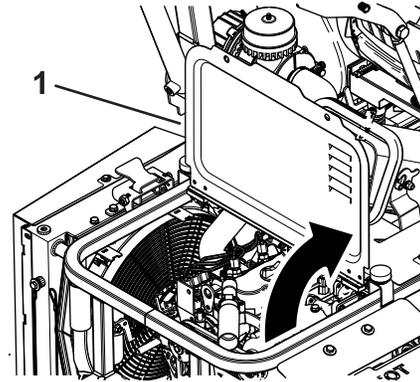

Figure 52
2. Remove the fasteners and raise the cover to access the engine (Figure 52).